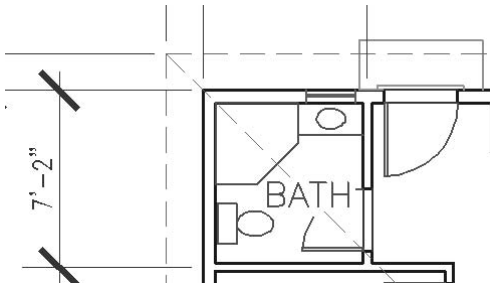

FIGURE 14.10: The zoomed-in view of Cabin11a showing the lineweights
3. Make a window that encloses the bathroom and a couple of the dimensions. You have to left-click and hold down the mouse button, drag open the window, and then release. The new view displays the lineweights you have set up (see Figure 14.10).